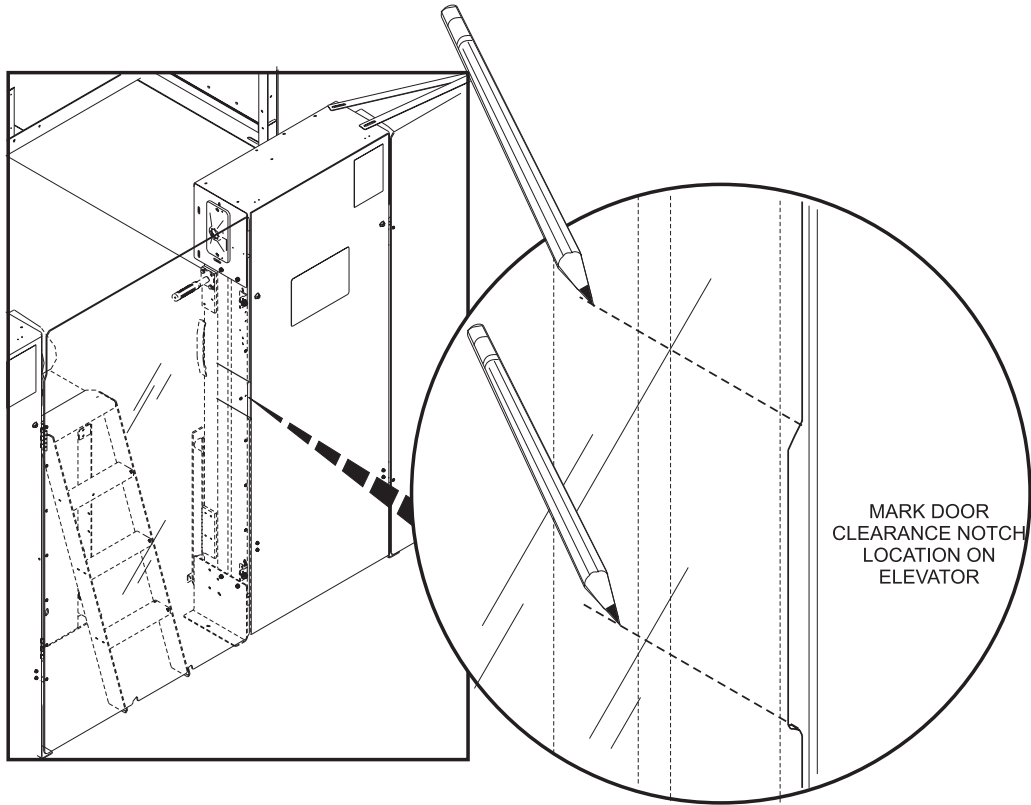

Figure 2
1. Close rear door and mark location of door's clearance notch on the side of the elevator. Refer to *Figure 2*.